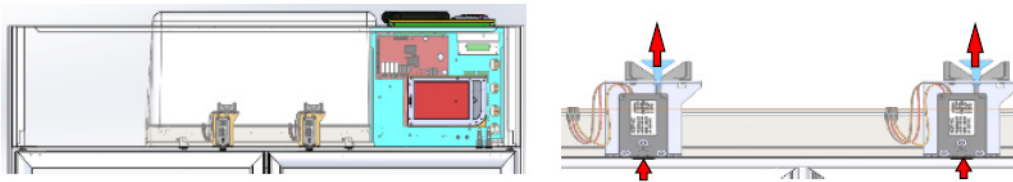

Figure 24. Mod. 1500 digital electric lock position
- For model 1500, manual door opening has to be performed by accessing from top of the refrigerator – **Figure 24.** Pulling the release lever upwards and keeping levers individually in tractions allows opening the related door.